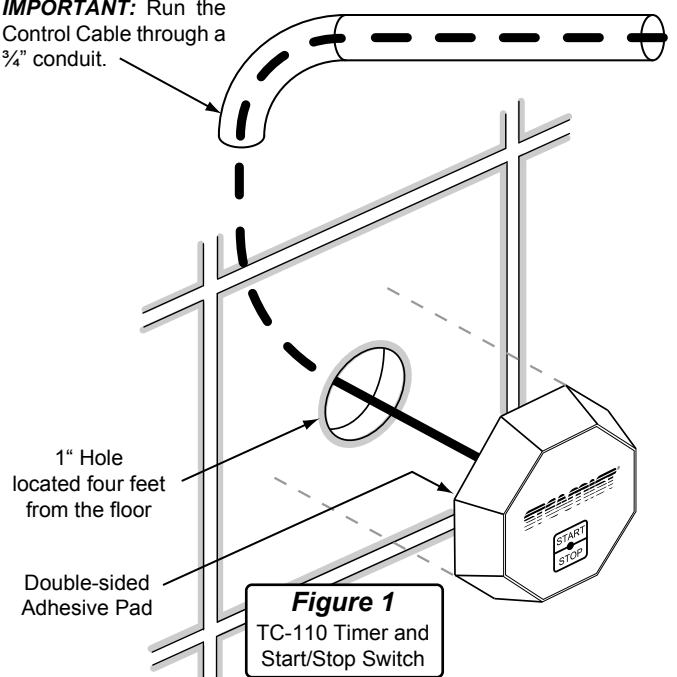

Figure 1
- a) The TC-110 control may be installed inside or outside the steam room. For convenience the recommended height from the floor is four feet. Provide a 1" hole in the wall at this location (see Figure 1).